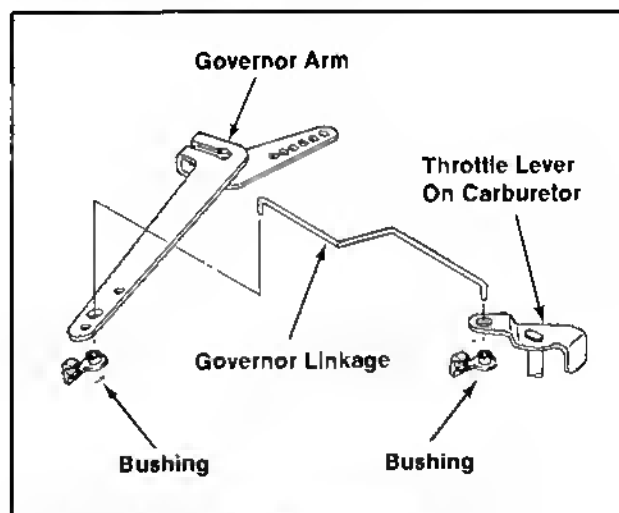

Figure 6B-15. Installing Bushings And Governor Linkage -- M20 Engines.
2. Install the dampening spring to governor arm and bushing on carburetor throttle lever as shown in Figure 6B-16. Make sure the end of spring with larger hook is installed around the bushing in carburetor throttle lever.